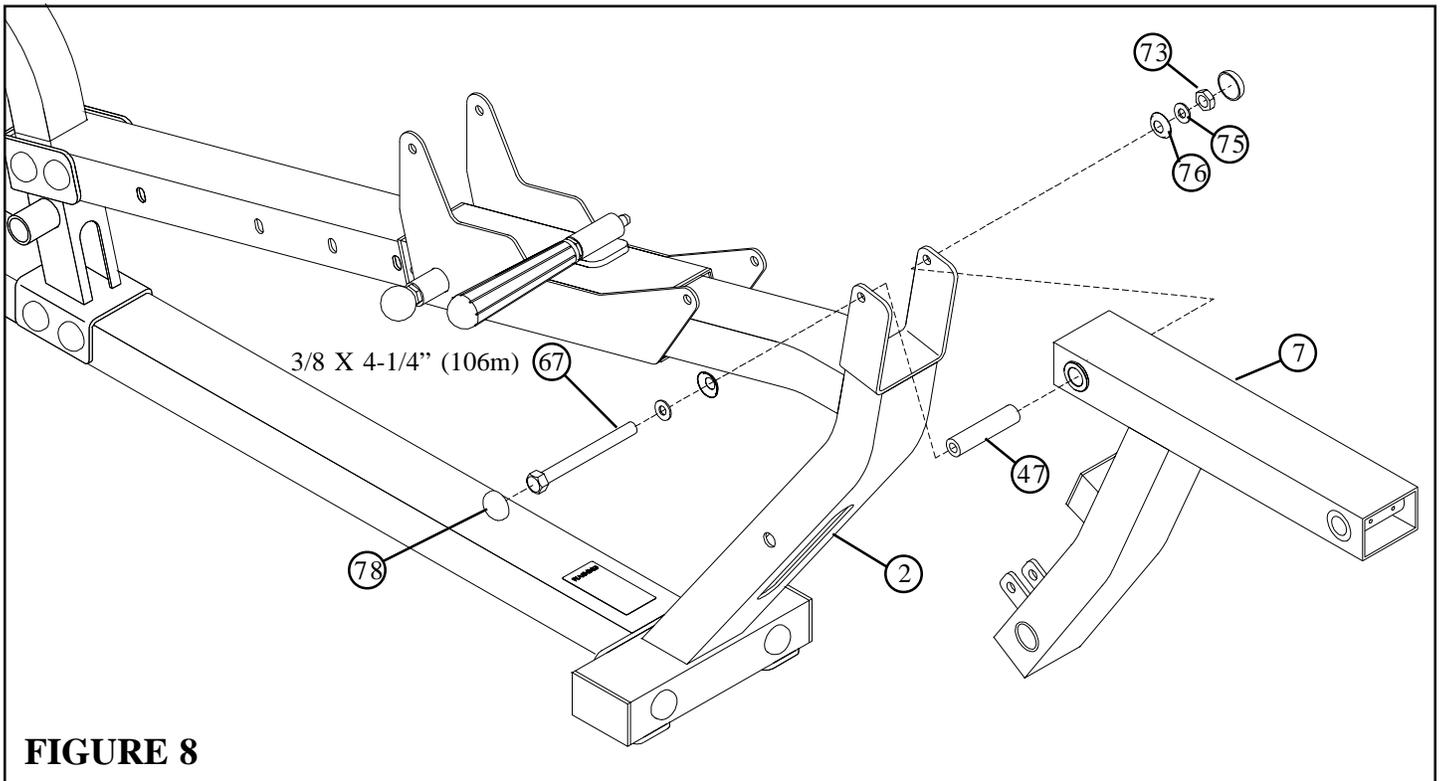

**FIGURE 7**
- Using **EXTREME CARE** slide all twenty WEIGHT PLATES (31) down over the GUIDE RODS (27) on to the 3/4 X 2" WEIGHT STACK CUSHIONS (30). Make sure that the WEIGHT PLATES (31) are all facing as shown.
- Slide the HEAD PLATE ASSY (29) down over the GUIDE RODS (27) onto the weight stack.
- Slide two 13/16" SHAFT COLLARS (50) over the GUIDE RODS (27) as shown in FIGURE 7.